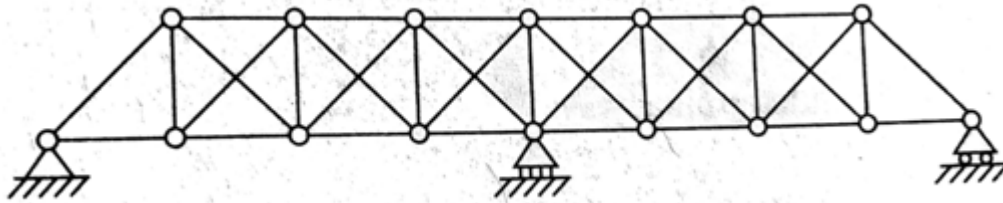

Figure 1
- (b) Determine the degree of static indeterminacy of the pin-jointed plane frame shown in Figure 1. [6 M]